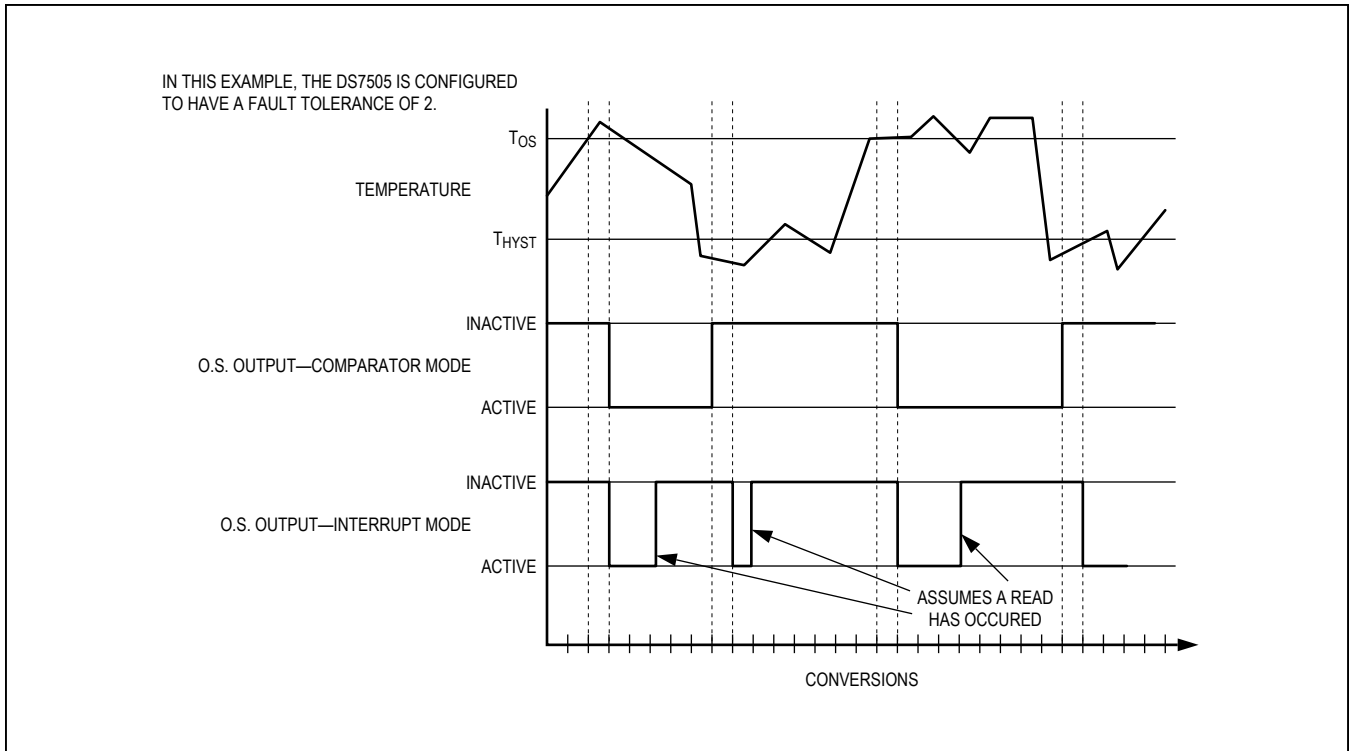

Figure 4. O.S. Output Operation Example
When the thermostat is in comparator mode, O.S. can be programmed to operate with any amount of hysteresis. The O.S. output becomes active when the measured temperature exceeds the  $T_{OS}$  value a consecutive number of times as defined by the F1 and F0 fault tolerance (FT) bits in the configuration register. O.S. then stays active until the first time the temperature falls below the value stored in  $T_{HYST}$ . Putting the device into shutdown mode does not clear O.S. in comparator mode. Thermostat comparator mode operation with FT = 2 is illustrated in Figure 4.
measured temperature falls below the  $T_{HYST}$  value a consecutive number of times equal to the FT value. Again, O.S can only be cleared by putting the device into shutdown mode or reading any register. Thus, this interrupt/clear process is cyclical between  $T_{OS}$  and  $T_{HYST}$  events (i.e,  $T_{OS}$ , clear,  $T_{HYST}$ , clear,  $T_{OS}$ , clear,  $T_{HYST}$ , clear, etc.). Thermostat interrupt mode operation with FT = 2 is illustrated in Figure 4.